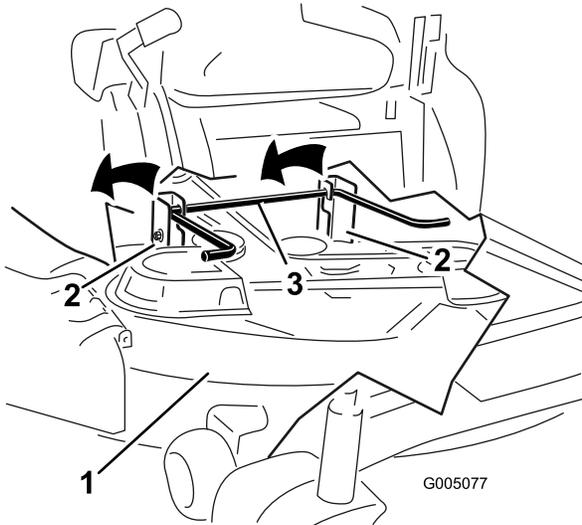
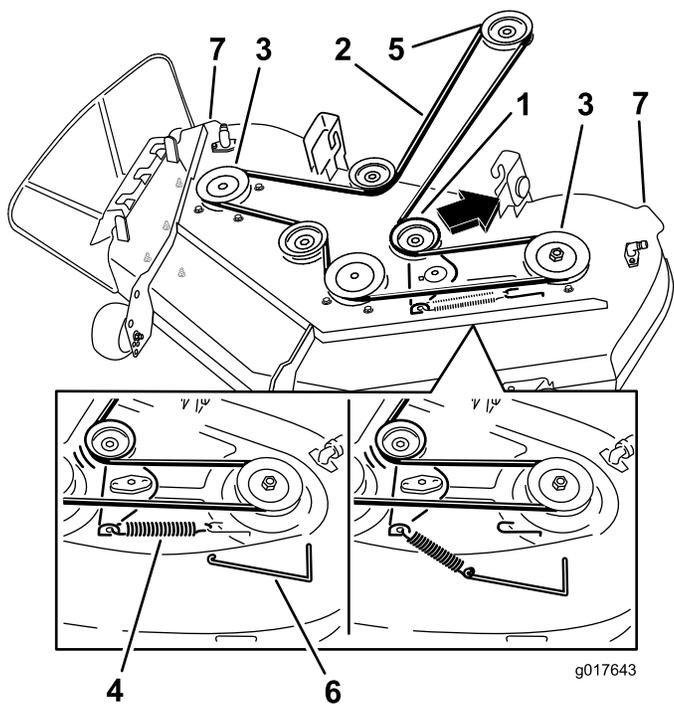

Figure 59
Figure 60
4. Using a spring removal tool, (Toro part no. 92-5771), remove the idler spring from the deck hook to remove tension on the idler pulley and roll the belt off of the pulleys (Figure 60).
5. Using the mower deck handles, lift the mower deck and hanger brackets clear of the rear lift rod and lower the mower carefully to the ground (Figure 59 and Figure 60).
- Route the new belt around the engine pulley and mower pulleys (Figure 60).
- Using a spring removal tool, (Toro part no. 92-5771), install the idler spring over the deck hook and placing tension on the idler pulley and mower belt (Figure 60).
- Lift the rear of the mower deck and guide the hanger brackets over the rear lift rod (Figure 59).